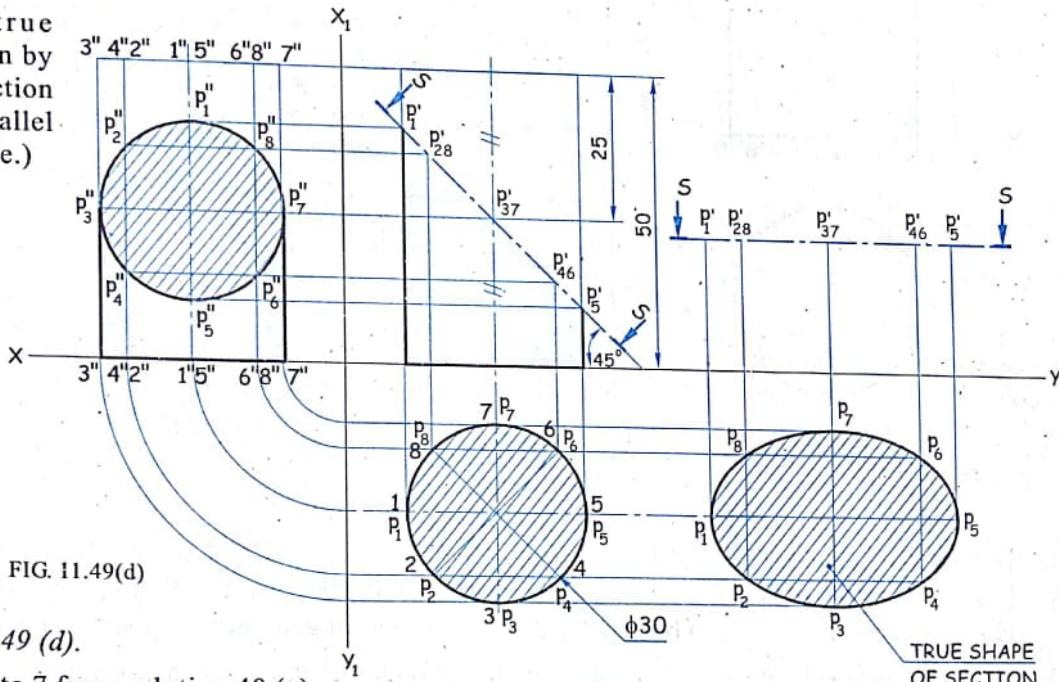

FIG. 11.49(d)
Refer figure 11.49 (d).
- (i) Place the section plane $S-S$ with the points P'_1, P'_2, \dots, P'_8 parallel to the XY line as shown in figure 11.49 (d).